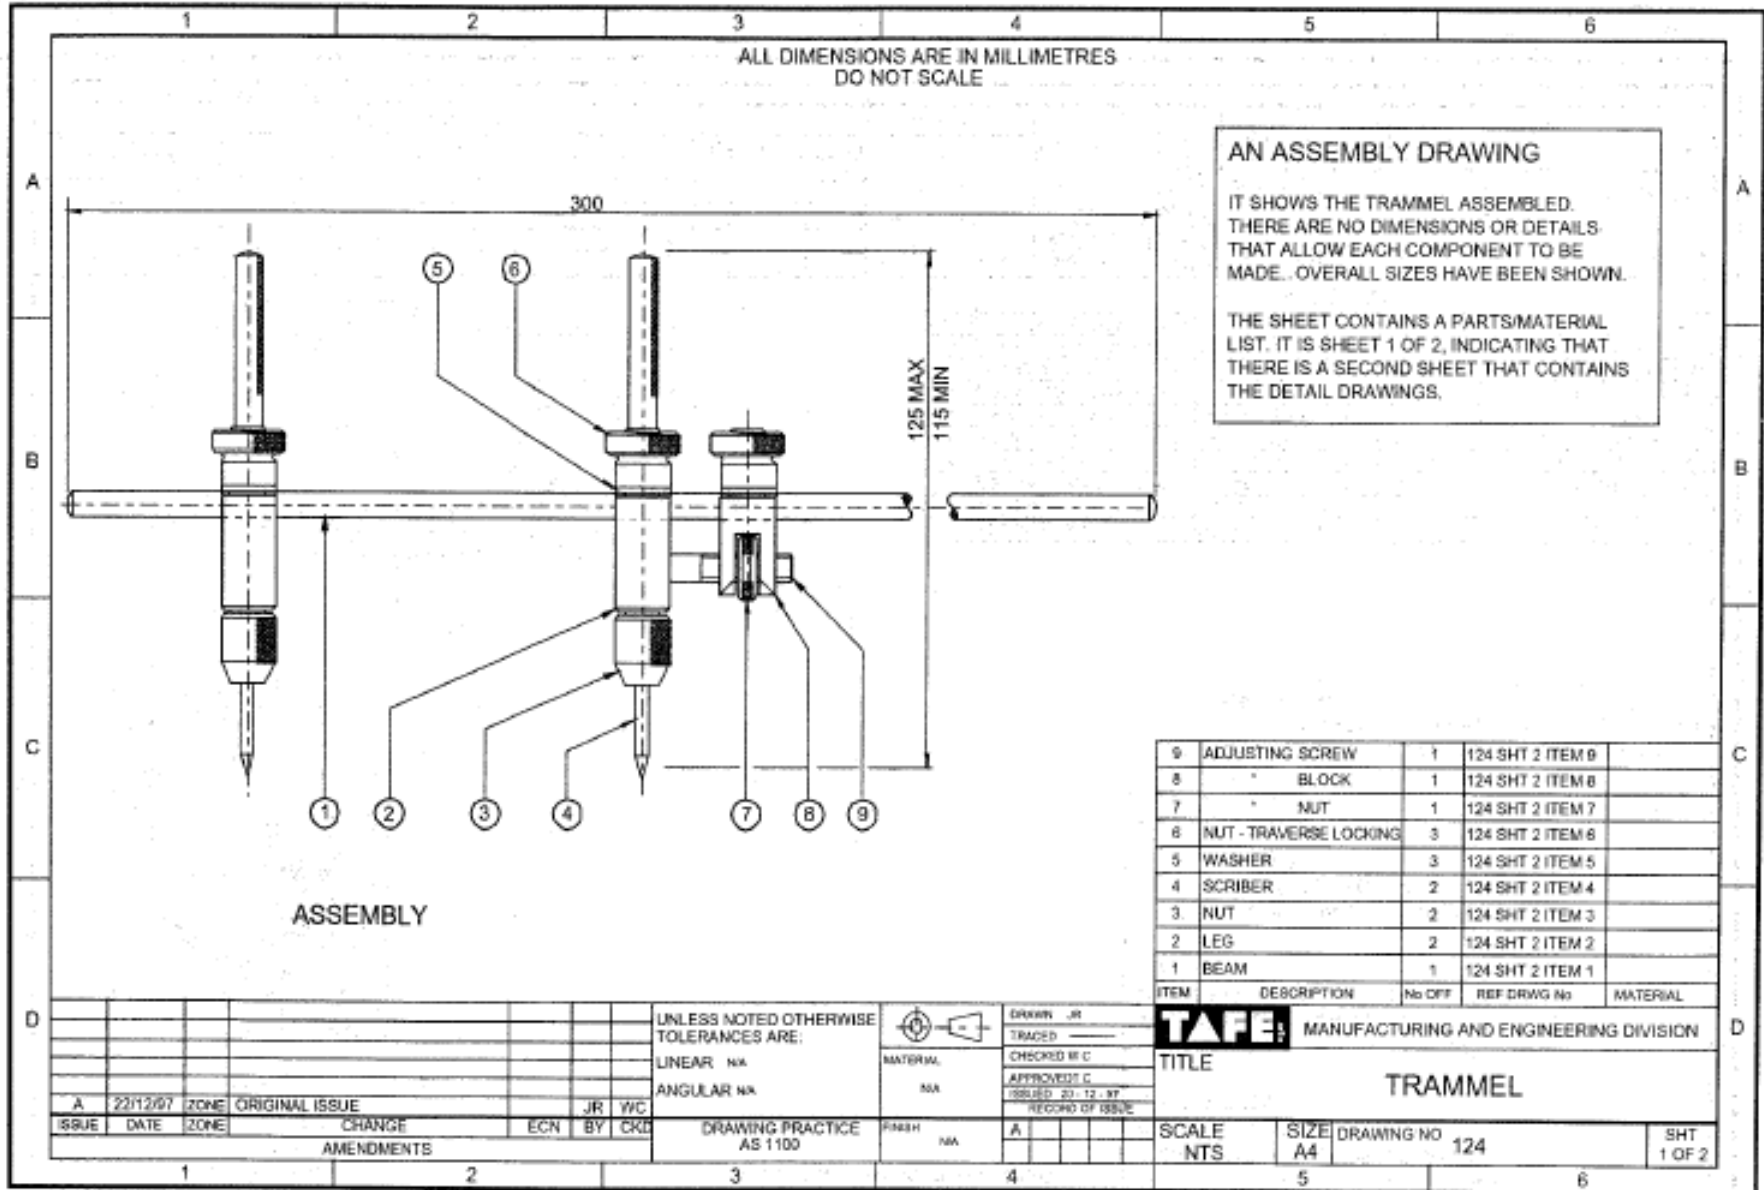

Fig. PF-4-1-11 Example of an Assembly Drawing
- An assembly drawing (see **Fig. PF-4-1-11**) shows how a collection of parts, standard components and sub-assemblies fit together into a finished product.